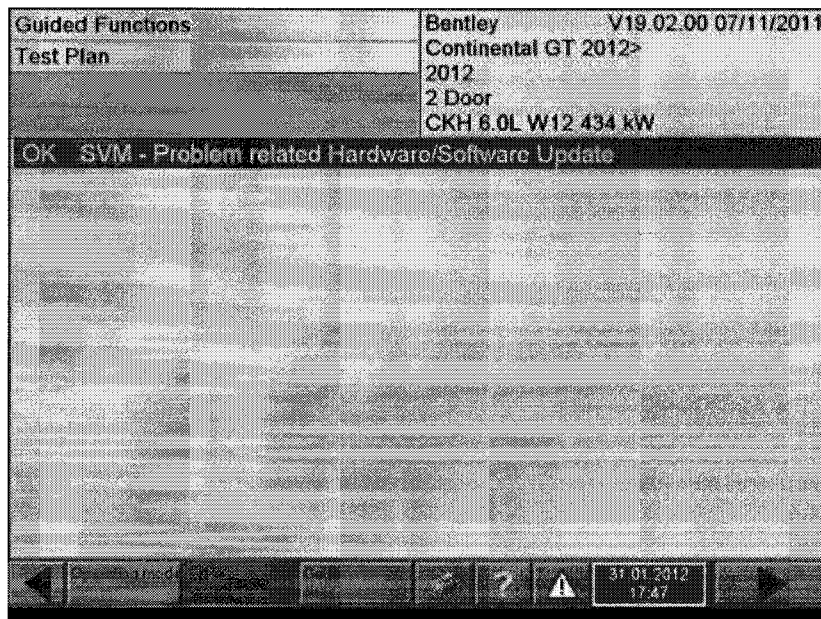

Figure 22
24. Once back at the *Test Plan* screen turn off the ignition and remove the key, leave the ignition OFF for 10 minutes (see Figure 22)